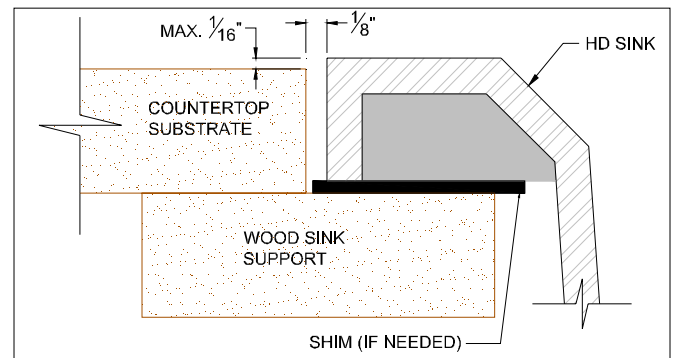

Figure 15B
- The sink should sit slightly higher than the substrate. (FIG. 15B)